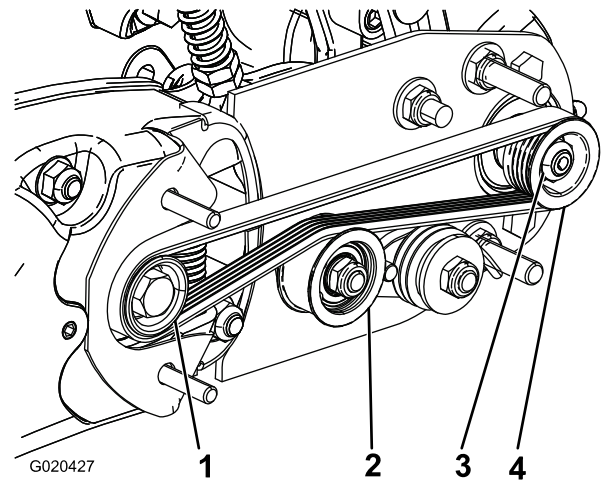

Figure 22
1. The driven pulley (at the roller-brush shaft) can move in or out (Figure 22).